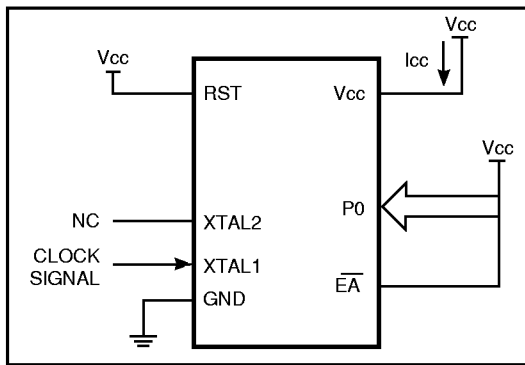

Figure 27. Active Mode
1. See Figures 27, 28, 29, and 30 for I_{cc} test conditions.